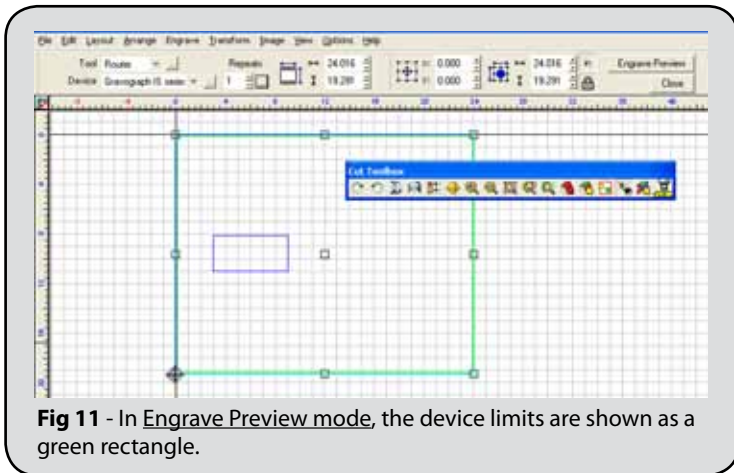

Fig 11 - In Engrave Preview mode, the device limits are shown as a green rectangle.
- Now that the tool path has been created, choose **Output** from the **Engrave** menu to activate the **Engrave Preview** mode. The tool path will be positioned as it would be cut upon the material. (Fig. 11)